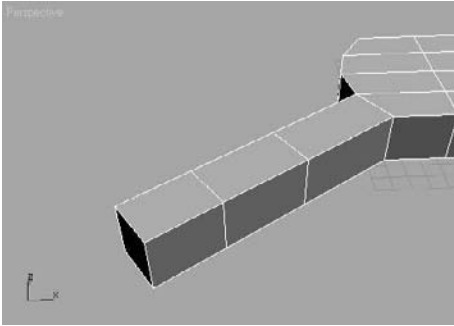

Figure 4.78
3. We are going to extrude the first finger so that it has three sections, so instead of doing one extrude, we are going to do three back to back. This will give the finger more segments with which to work. If you look at your own finger, you will notice the lower joint is the biggest joint, getting smaller toward the tip of the finger. In the Settings dialog box, set the first amount to **60**. The Setting dialog box allows you to interactively perform these functions so you can see the extrude before you apply it. The 60-unit extrude looks good, so click **Apply**. This keeps the Settings window open. Go to Extrusion Amount and enter **50**; this will change the extruded segment to 50 units. Click Apply again for the second extrusion. Change the extrude amount to **40**, and press **OK** for the last extrusion of the index finger. Figure 4.78 shows the first finger.